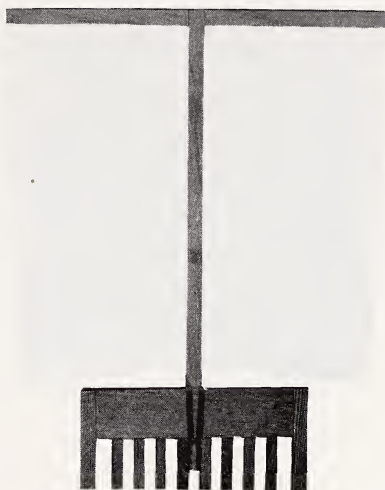

FIG. 1.
**The Reflector:** In the various articles upon Portraiture the use of the reflector is explained. In practice it is often inconvenient or undesirable to secure an assistant for the purpose of holding the cloth to be used as a reflector. The illustration on the next page (Fig. 1) shows a reflector which may be easily constructed and which will be found very convenient in use. Provide two pieces of wood about one inch wide by half an inch thick, one piece being about two feet and the other two feet six inches long. In one end of the longer piece insert a screw eye having a head about one-half an inch in diameter. Cut an